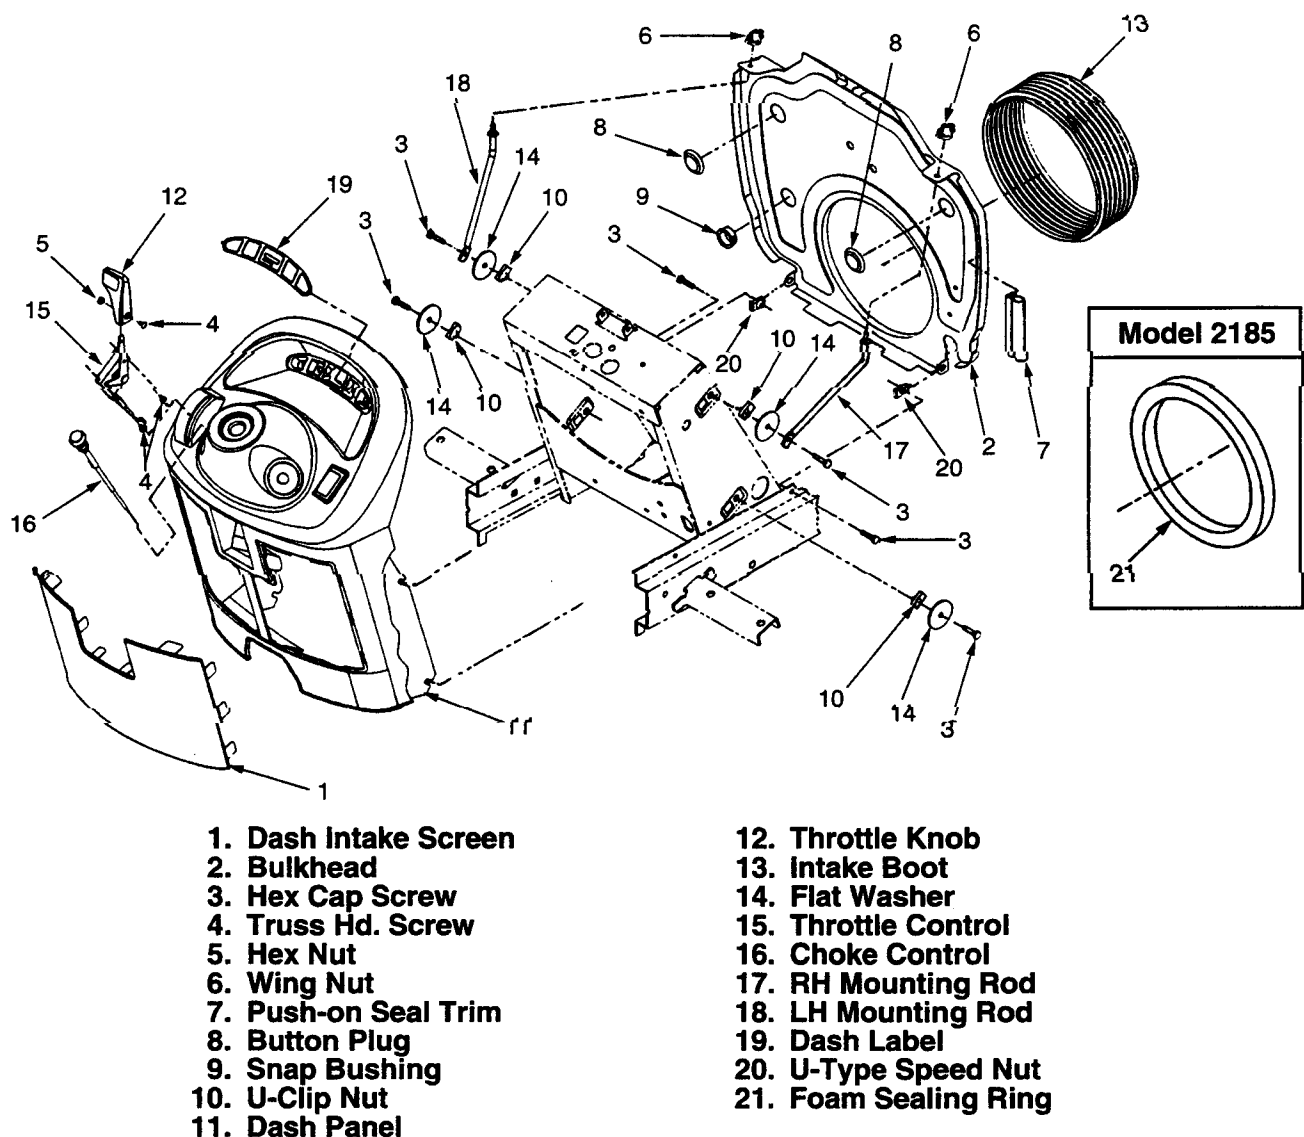

Figure 5-16. Dash Panel, Bulkhead, and Engine Controls (All Models).
5-14.1 General. If desired, the dash panel (11, Fig. 5-16) may be removed from the tractor prior to removing the electrical components and engine controls from the dash (step 7 below).
4. Disconnect the throttle control (15, Fig. 5-16) from the engine per paragraph 5-31.2.
5. Disconnect the choke control (16) from the engine per paragraph 5-31.2.
7. Remove the dash panel (11) as follows:
- b. Disconnect and remove the hour meter and dash label (19) per paragraph 5-4.2 or 5-5.2.
- c. From underneath the dash panel, pinch the locking tabs of the choke control (16) to